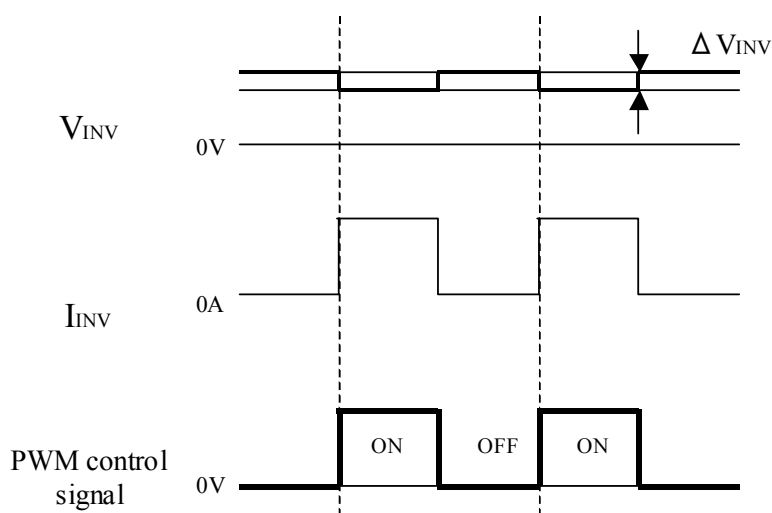

Fig.5 Brightness control voltage.
- Brightness control voltage is switched for "ON" and "OFF", as shown in Fig.5. Voltage difference generated by this switching,  $\Delta V_{INV}$ , may affect a sound output, etc. when the power supply is shared between the inverter and its surrounding circuit. So, separate the power supply of the inverter circuit with the one of its surrounding circuit.
- a) Piling number of cartons: (1) maximum (do not pile up.)
- b) Packing quantity in one carton: (4) pcs.
- c) Carton size: (1230) (W) × (1090) (D) × (2134) (H)
- e) Packing Form are shown in Fig 5. (TBD)